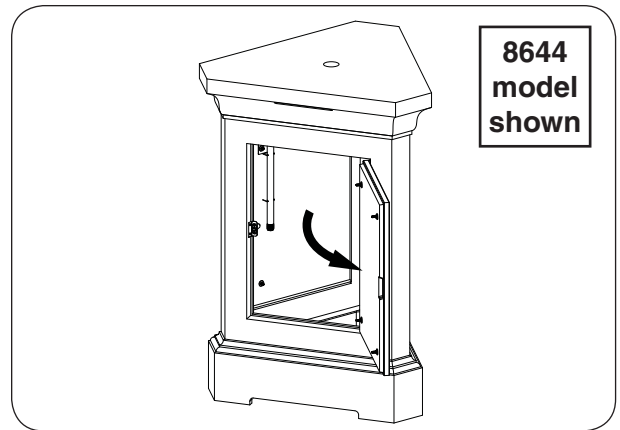

Fig. 27-1 Place pedestal and open door
**CAREFULLY** place the pedestal in an appropriate location (see Fig. 27-1, and refer back to the LOCATION section if needed).
1. Open the storage door (see Fig. 27-1).